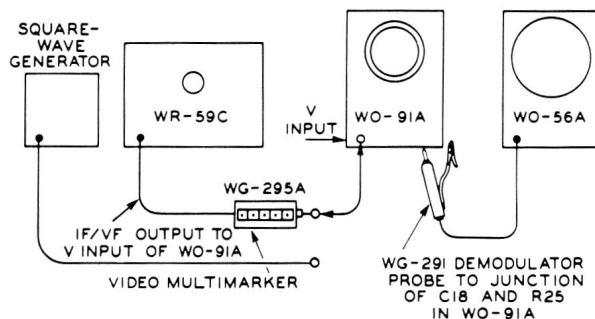

Figure 23. Test setup for alignment of vertical amplifier
3. Connect the test equipment as shown in Figure 23. Set the WO-91A bandwidth control to "4.5 MC" and the SYNC-H SEL control to "LINE." Adjust the H GAIN control for approximately 3 inches horizontal deflection.